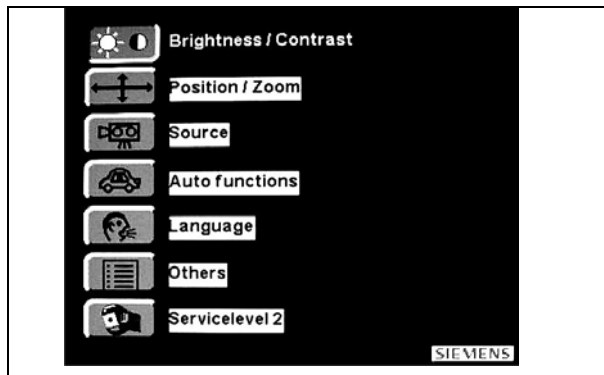

Fig. 2
- Function in the OSD main menu (Fig. 2) and in the submenu "Others":**
- Function in the OSD main menu (Fig. 2):**
- Function in the OSD main menu (Fig. 2):** No function.
- Function in the main menu (Fig. 2):**